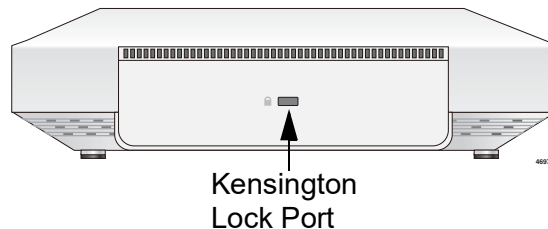

Figure 14. Kensington Lock Port Location
1. Follow the instructions provided with the vendor’s anti-theft device packaging for the installation. Refer to Figure 14 for the Kensington lock port location.